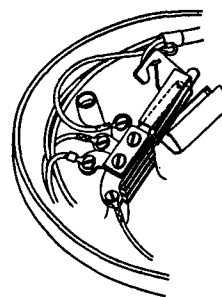

Fig. 7.
6.02 To assemble, place the inner cover in position on the long contact spring with the open side toward the center of the hand set mounting and the narrow slit in the end of cover engaged by the long contact spring about $3/8$ " from the end of the spring. Then assemble the outer cover in position with its open side away from the center of the hand set mounting, taking care to see that the lower flange (as shown in Fig. 7), is below the lower flange of the inner cover. This may be done by first inserting one corner of the outer cover in position as shown in Fig. 7, then pressing it into position so that its upper flange is above the upper flange of the inner cover.